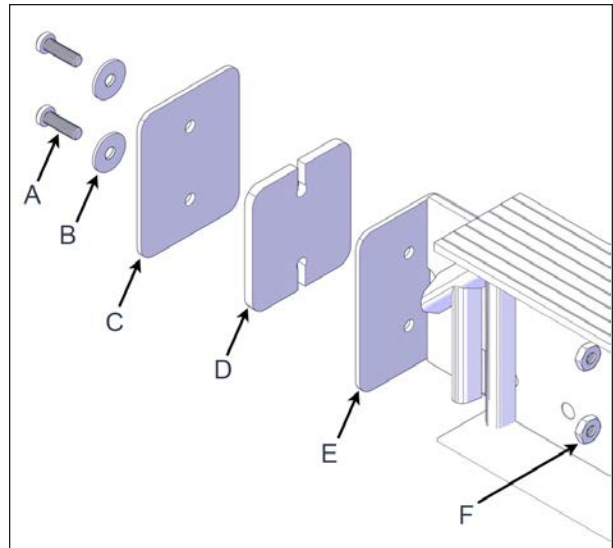

FIGURE 17: I-BEAM WITH THE SHORT I TO C CONNECTION PLATE INSTALLATION
1. Assemble the two I-beam short connection plates as shown in Figure 17.
2. Use #10-32 x 5/8" screws and #10-32 nuts. Insert the I to C spacer in between the I to C connection plate and the bracket. The screws and nuts can now be properly tightened, see Figure 17.